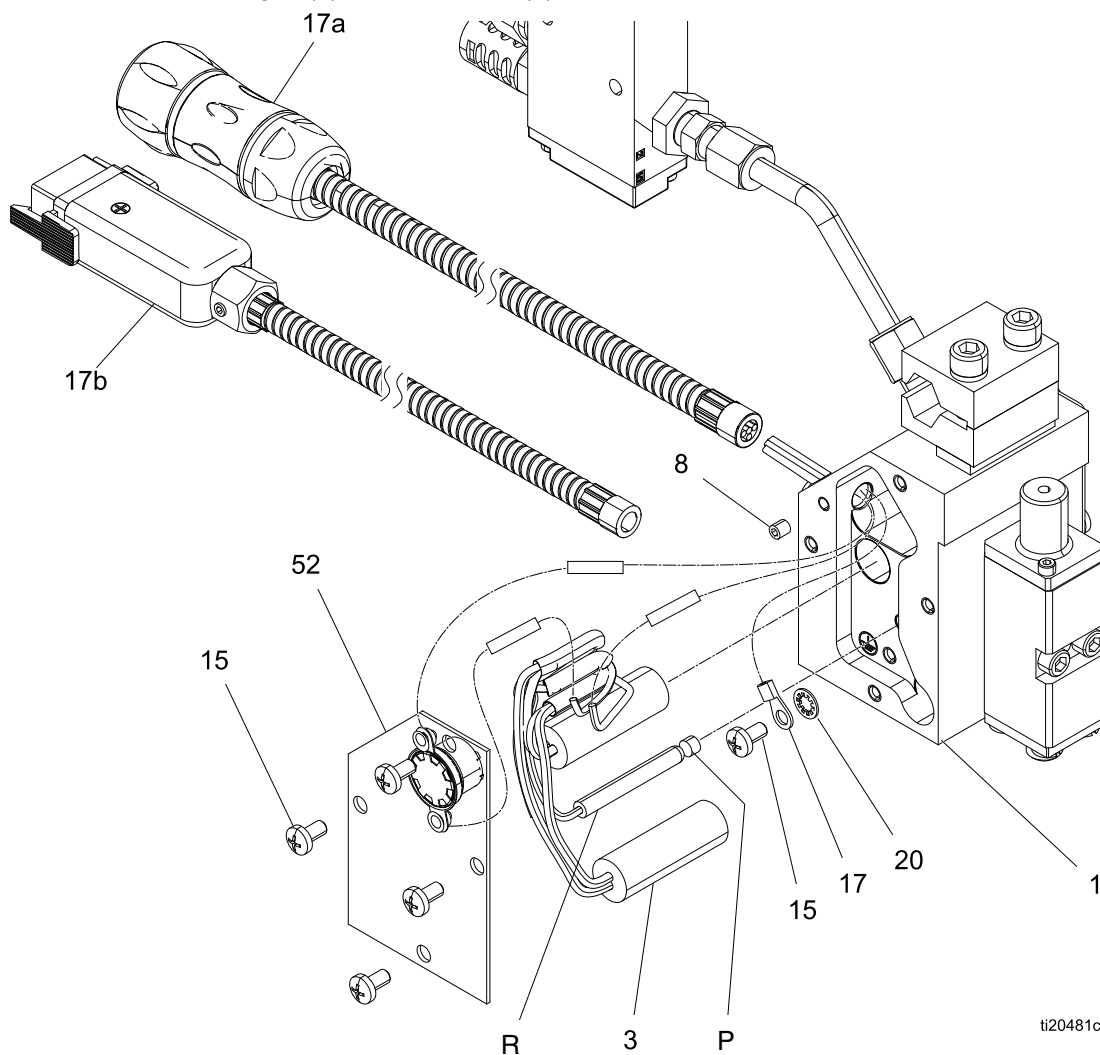

Figure 14 Repair Parts
See Fig 14.
11. Insert the plug (P), RTD (R) and thermal cutoff (52) into the manifold ports. See Fig 14.